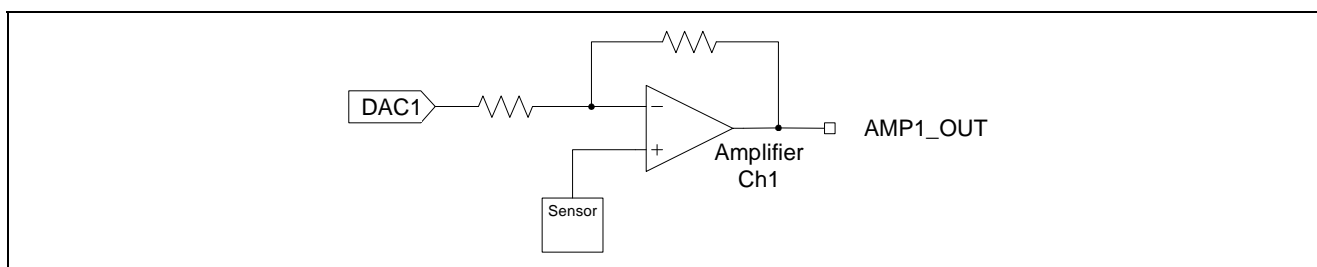
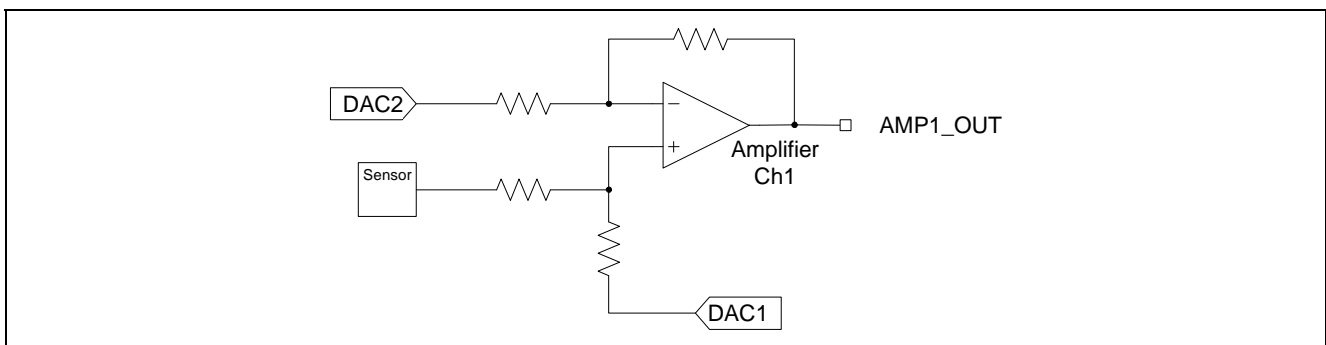
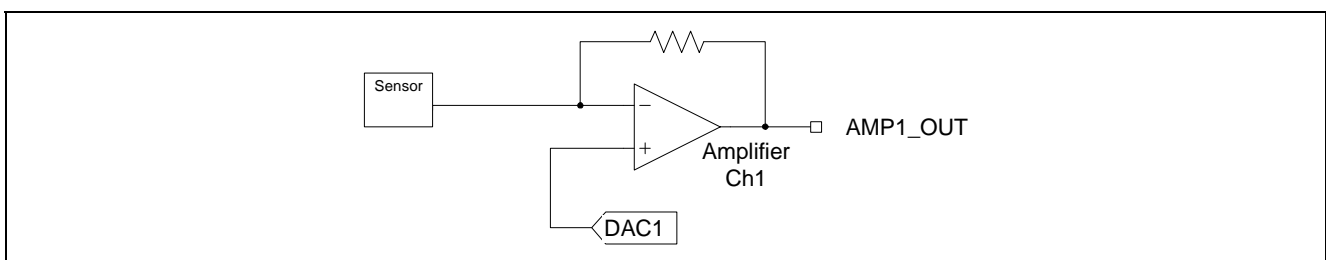

Figure 4-1 Non-Inverting Amplifier Circuit Diagram
Figure 4-2 Circuit Diagram of Differential Amplifier (Using Two D/A Converter Channels)
Figure 4-6 Transimpedance Amplifier Circuit Diagram
Figure 4-1 shows a circuit diagram of a non-inverting amplifier that is configured by using configurable amplifier Ch1 and D/A converter Ch1 in Smart Analog IC 500.
Figure 4-2 shows a circuit diagram of a differential amplifier that is configured by using configurable amplifier Ch1 and D/A converter channels Ch1 and Ch2 in Smart Analog IC 500. This circuit diagram below is also an example of a non-inverting amplifier for the connected sensor.
By using three configurable amplifier channels, a differential amplifier that combines the advantages of the non-inverting amplifier shown in Figure 4-1 and the differential amplifier shown in Figure 4-2 can be configured. In this example, an amplifier functions as a non-inverting amplifier in the configuration of a differential amplifier with one input pin connected to output of a sensor and with another input pin connected to the D/A converter. However, because it requires three configurable amplifier channels to configure this amplifier, only one sensor can be used at one time.
Figure 4-6 shows a circuit diagram of a transimpedance amplifier that is configured by using configurable amplifier Ch1 and D/A converter Ch1 in Smart Analog IC 500.
This amplifier is configured by externally connecting a resistor to the non-inverting amplifier shown in Figure 4-1. By using the external resistor as the sensor's load resistor, a current sensor can be used as a voltage sensor. The circuit as a whole has a non-inverting amplifier configuration with high input impedance, and amplifies the voltage input to the non-inverted input pin. This kind of amplifier is available for sensors that have a large output current by selecting the resistance value of an external resistor, compared with the transimpedance amplifier shown in Figure 4-6.
- Smaller gain error than the transimpedance amplifier shown in Figure 4-6.